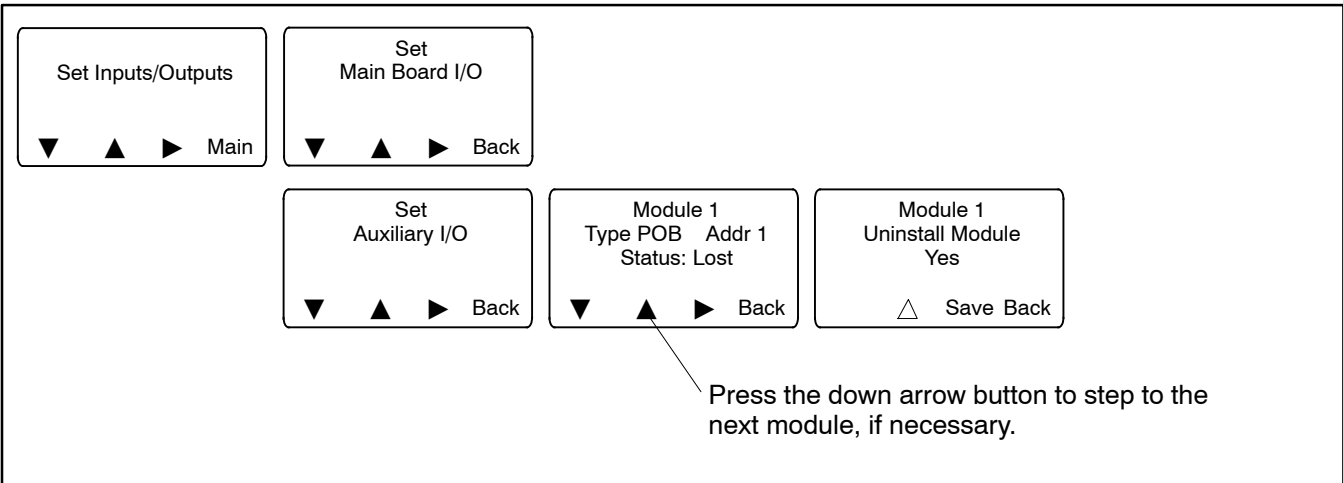

Figure 2-17 Uninstall Module
3. Navigate to the Set Input/Outputs>Set Aux I/O screen to check that the controller has recognized the connected modules. See Figure 2-17.
5. Press the down arrow to step to the Set Inputs/Outputs screen. See Figure 2-17.
6. Navigate to the Set Auxiliary I/O screen. See Figure 2-17. Press the right arrow button to see the status of module 1. Press the down arrow to step to the next module, if necessary, until the screen shows Status: Lost.
10. Navigate to the Set Auxiliary I/O screen to check the status and settings for the new module. See Figure 2-17. Press the right arrow button to see the status of module 1. Press the down arrow to step to the next module, if necessary,